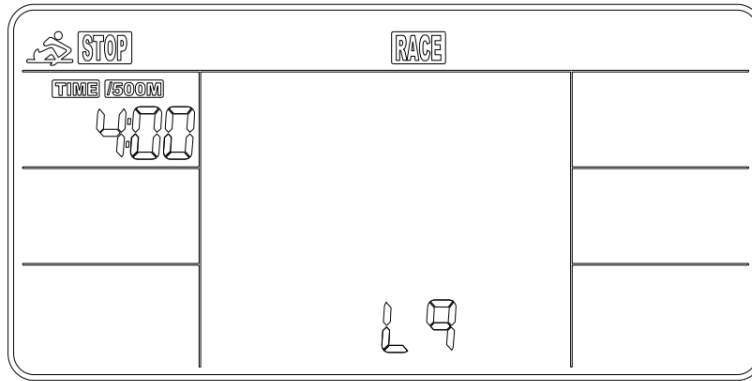

Fig.5
(2) RACE (Fig.5): Select RACE mode and L9 will flash. The TIME/500M will display 4:00. Then, press UP or DOWN to select L1 ~ L15. Press ENTER to confirm. Then, you can set the distance of the race (500 ~ 10000M) while the value of DISTANCE is blinking. Press ENTER, and the picture of the race will display on the screen.